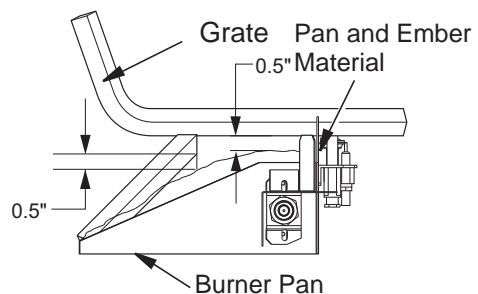

Figure 22 - Pan and Ember Material Clearances
4. Place just enough to cover entire surface and leave about a 1/2" gap under lower grate members to allow air to flow (see **Figure 22**).